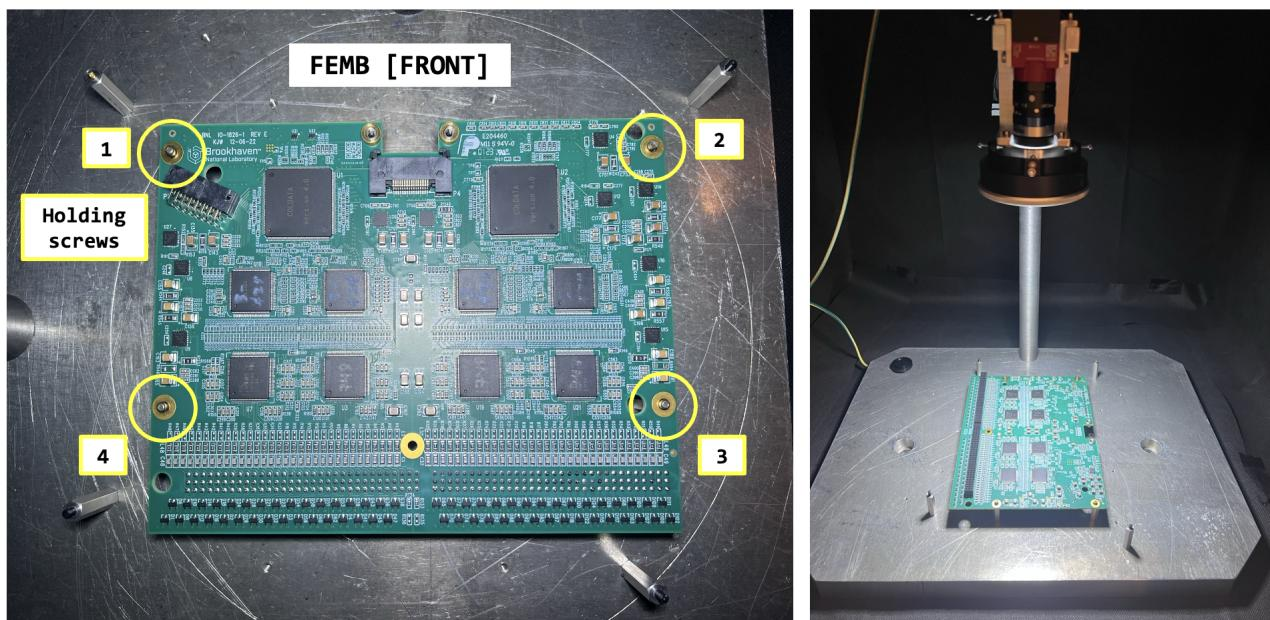

Figure 8: An FEMB placed on the base, ready to have its picture taken.
- 4) Place the FEMB:** Ensure boards are kept safe and ready for quick handling. Securely place the first board facing up (FRONT) using the holding screws on the base, as shown in Figure 8.